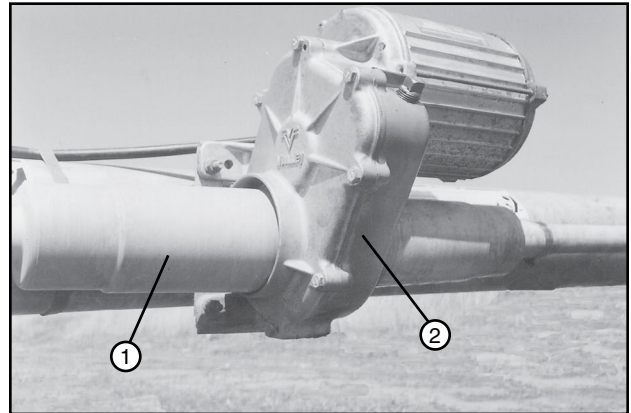

Figure 83-1 1. U-Joint Shield
- Slide the U-joint shield over the U-joint and position approximately 1/4 in away from touching the gearbox. Secure the U-joint shield to the drive shaft shield with a clamp. See figure 83-1.